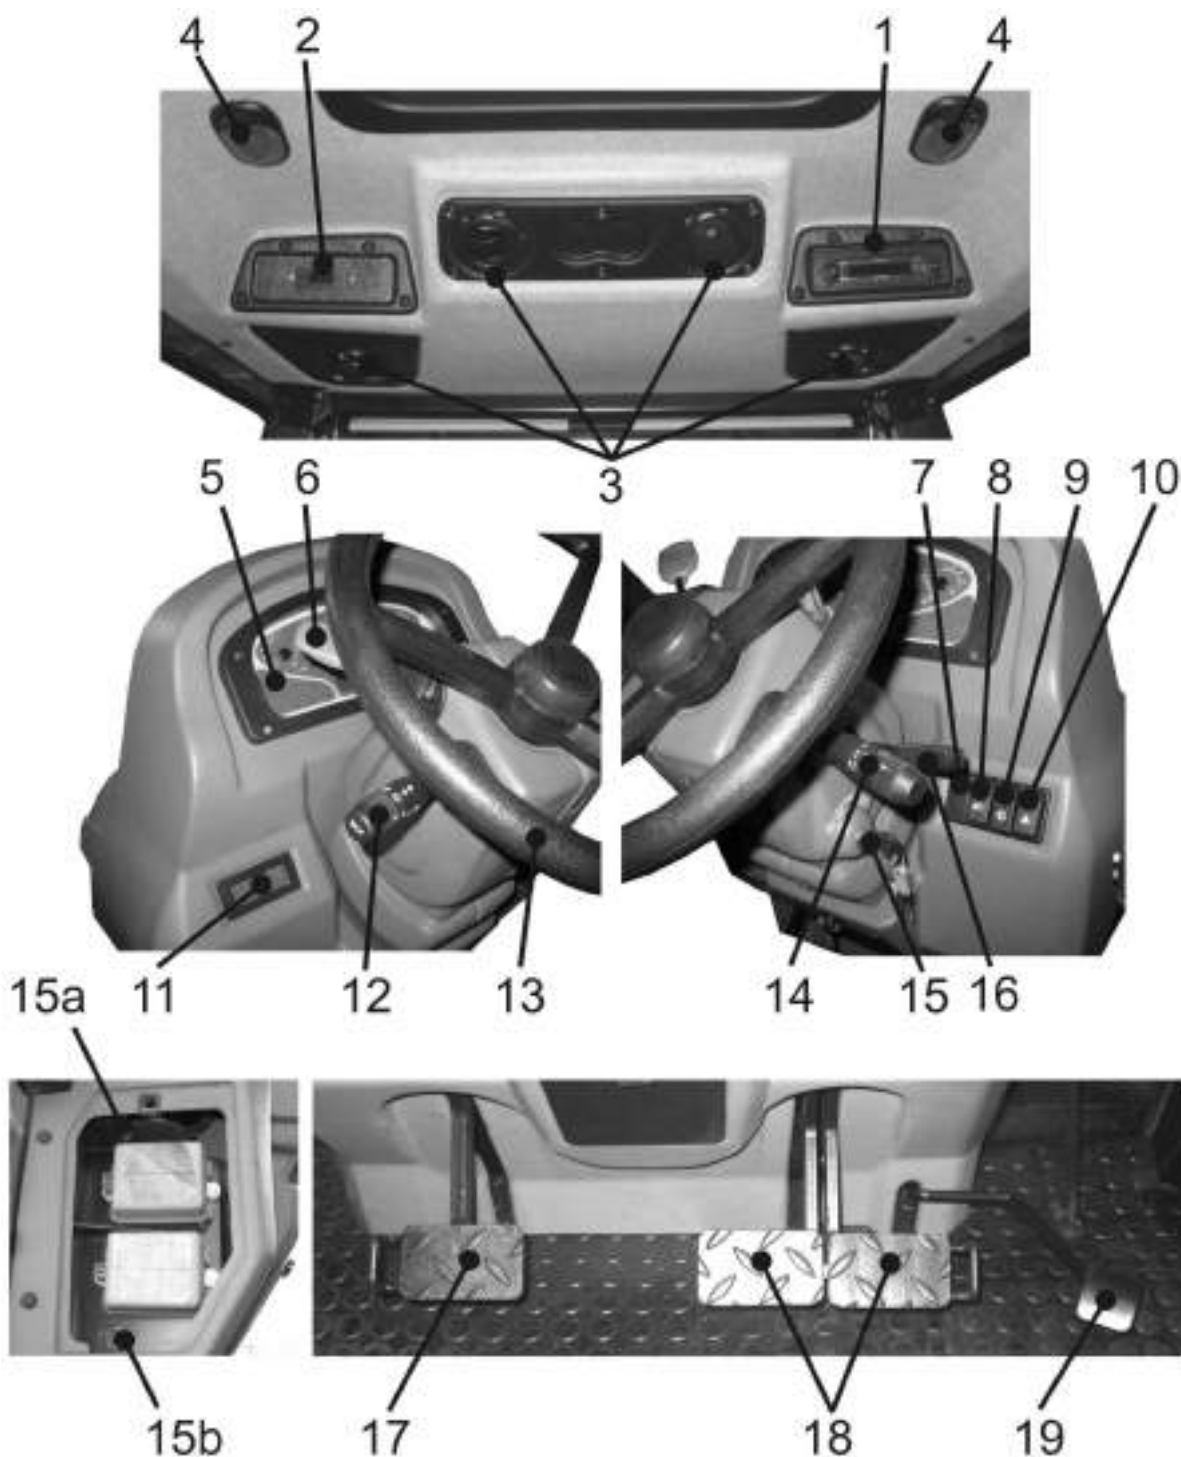

Figure 4-7 Positioning of controls and instruments of PRONAR 6170 / 6180 tractors
- **(PRONAR 6180)** engine diagnostic light. Enables you to read the engine diagnostic code after pressing diagnostic button (item 15a; Figure 4-7) located underneath the fuse cover to the left of steering column. **ATTENTION! Read and removal of faults may be carried out only an employee's Authorized Service PRONAR.**